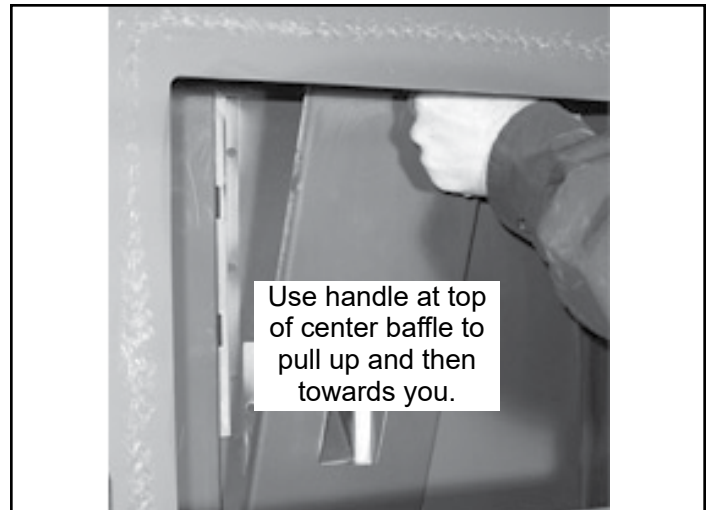

Figure 26.2
2. Remove the center baffle first by using the handle at the top of the baffle and pull up and then towards you. The hooks on the baffle will slide out of the slots in the bracket (**Figure 26.2**).